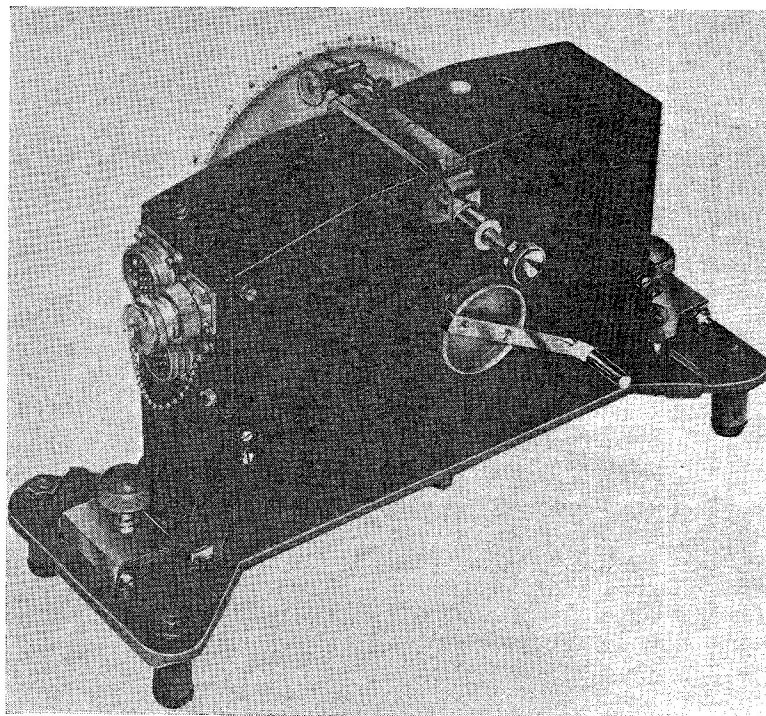
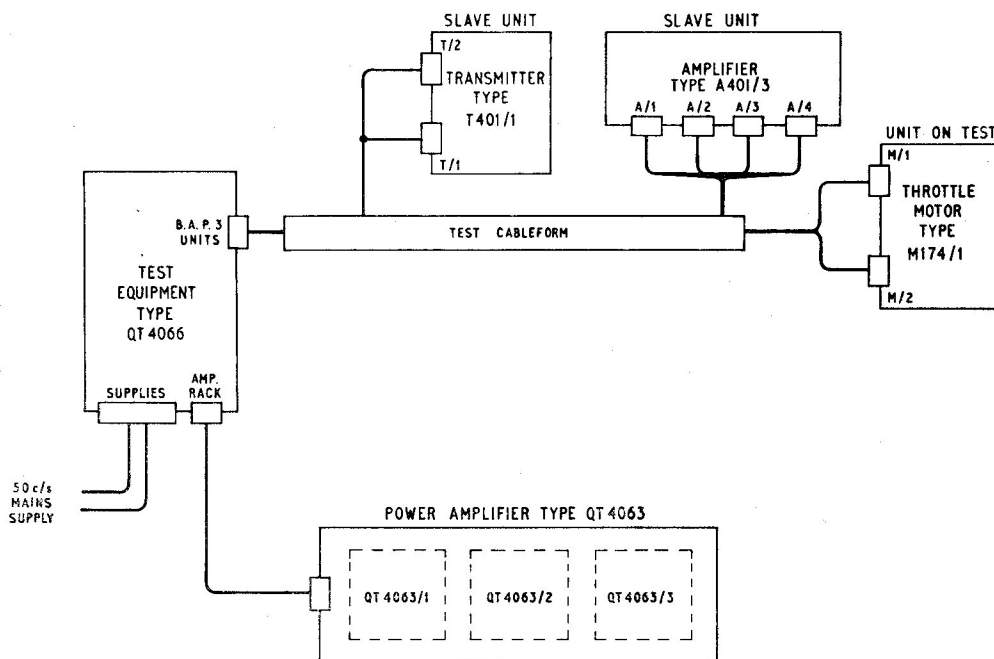

Fig. 1. Slave transmitter in test rig
Fig. 3. Test connections
5. Secure the slave transmitter and the throttle motor into their mounting rigs and attach the protractors as shown in figs. 1 and 2. Connect the throttle motor, slave units, test gear and power supplies as shown in fig. 3.